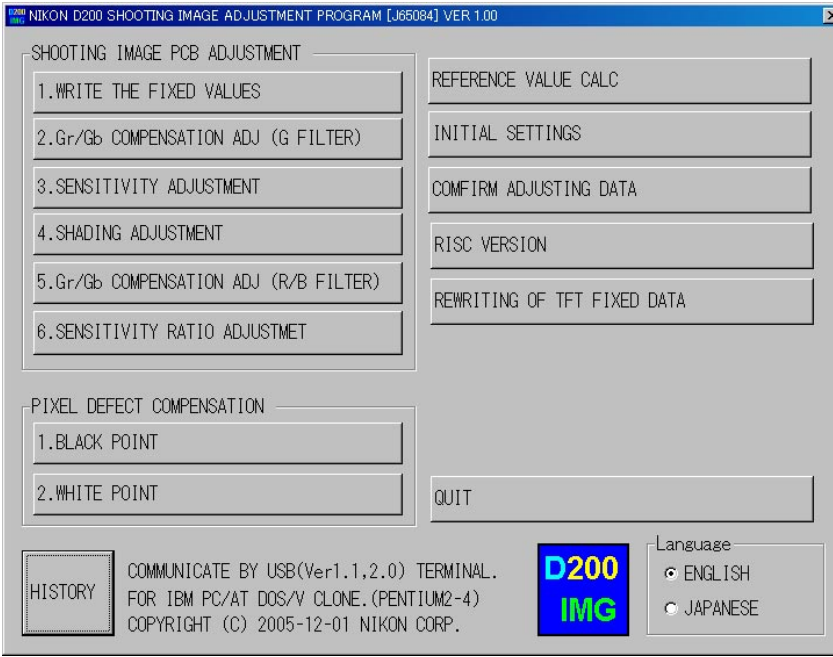

Fig.1
- (1) Perform the D200IMG.exe to start up the main screen. (ref. Fig.1)